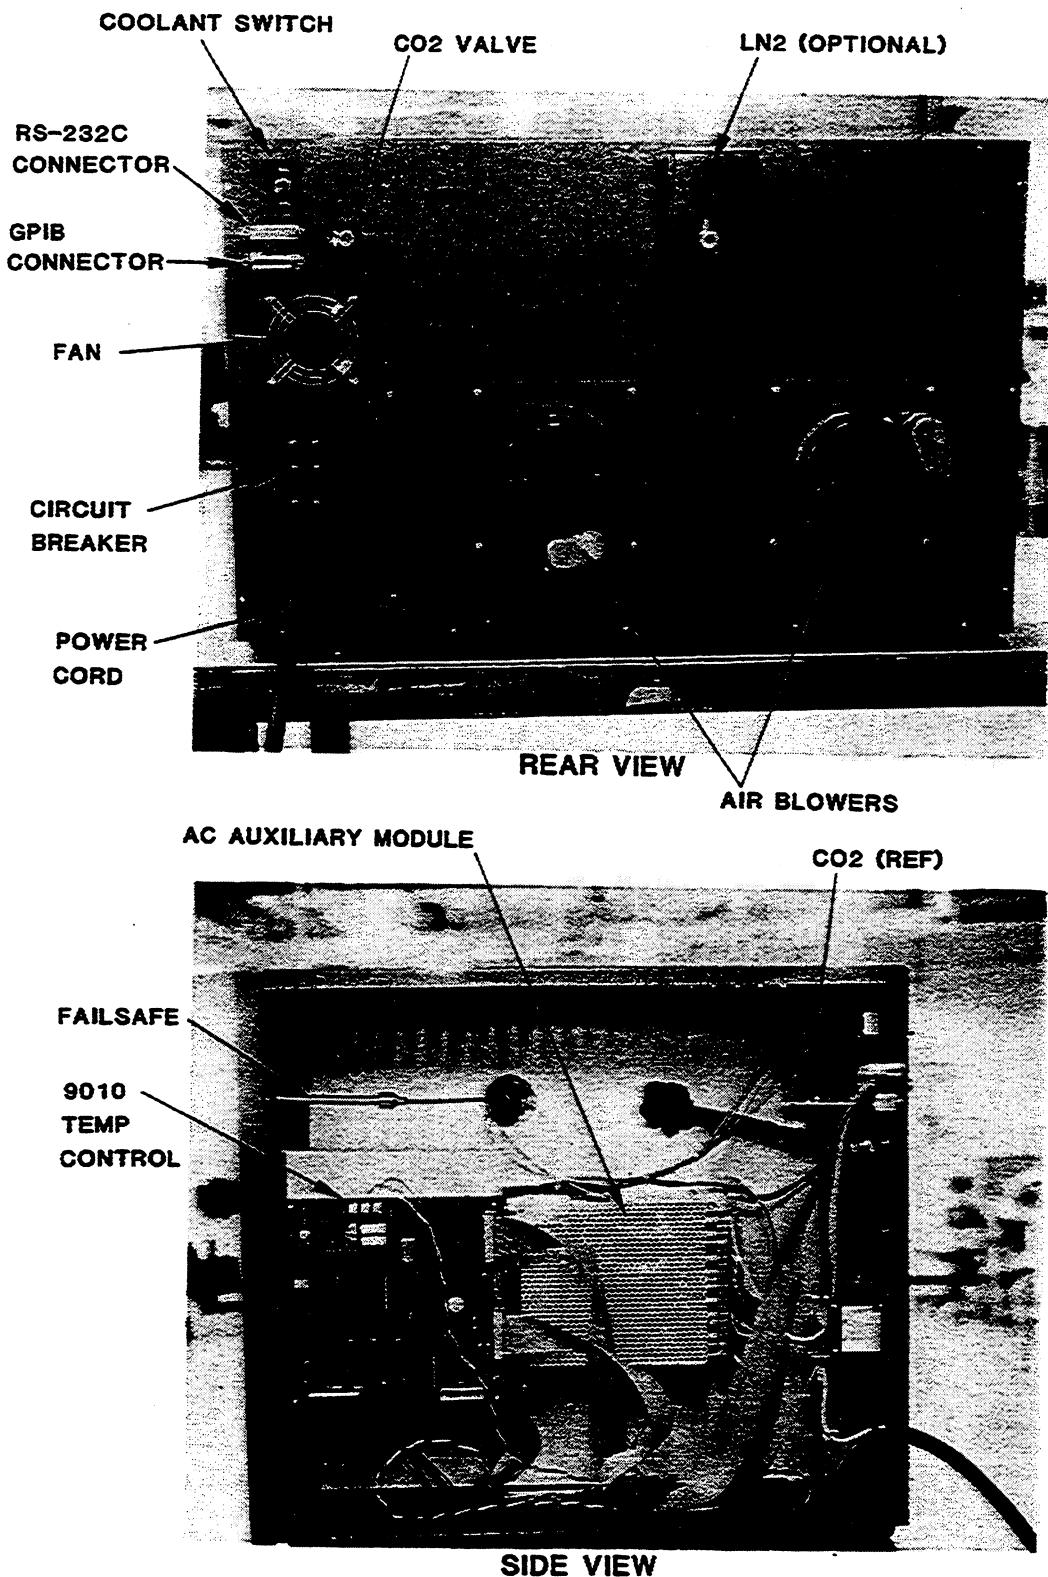

Figure 3-3. Component Removal
3.5 COMPONENT REMOVAL (reference Figure 3-3)